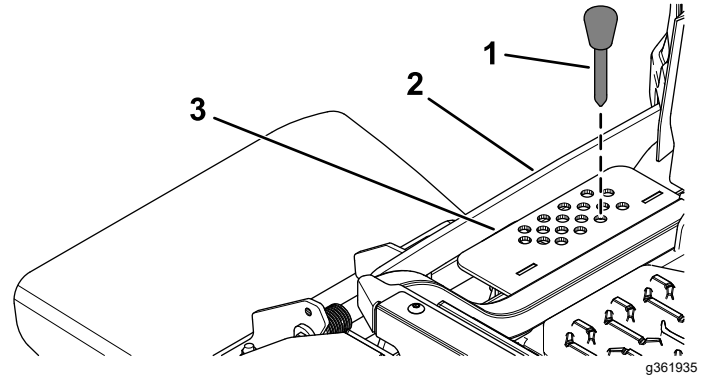

Figure 22
2. Select a hole in the height-of-cut bracket corresponding to the height of cut desired, and insert the pin (Figure 22).
3. Push down on the deck-lift switch until the height-of-cut linkage slightly contacts the height-of-cut pin (Figure 22).